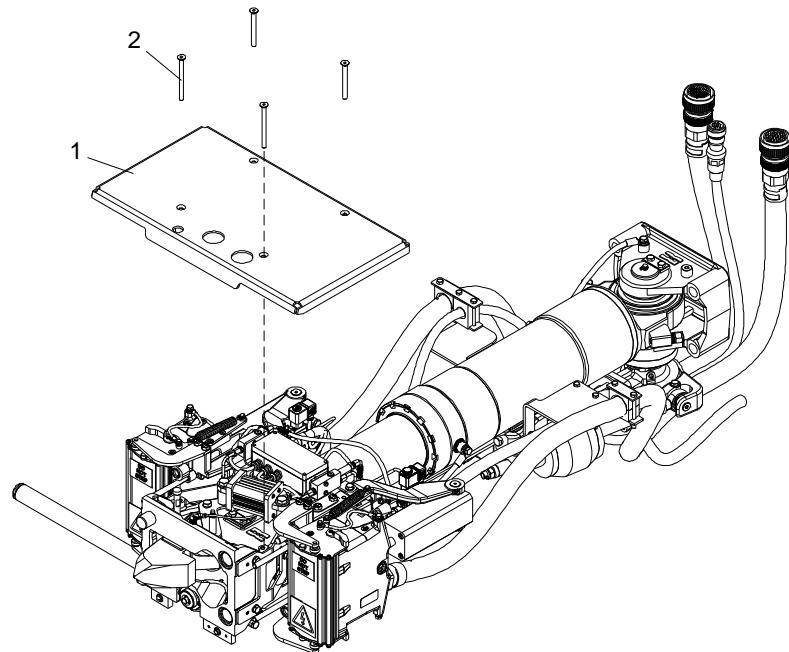

Figure 7-2: Replacement of Cover Plate
1. Remove the cover plate (1) by removing the four screws (2) and lifting it off of the coupler. See Figure 7-2.
2. Fit the cover plate (1) to the coupler and mount the four screws (2). See Figure 7-2.